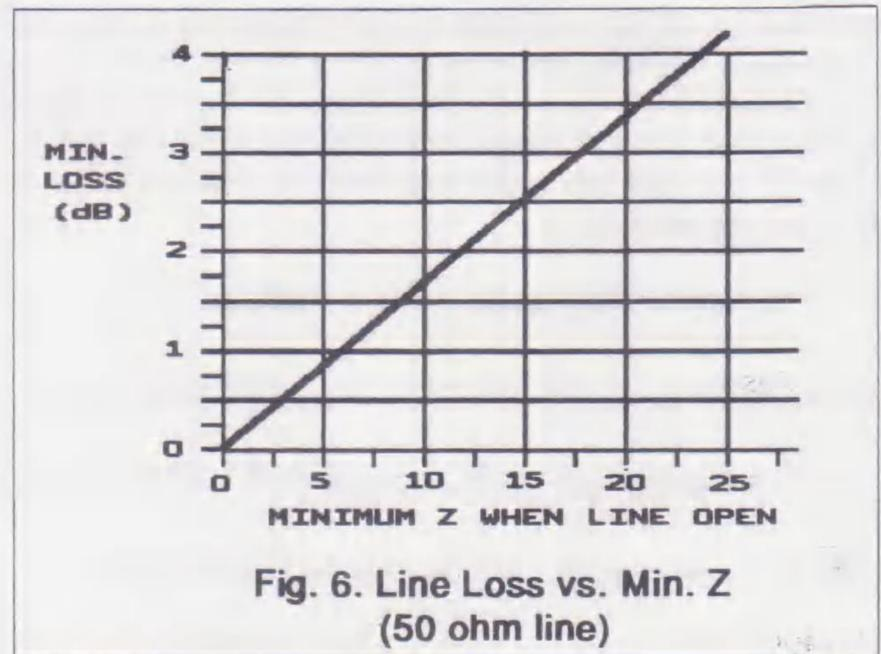
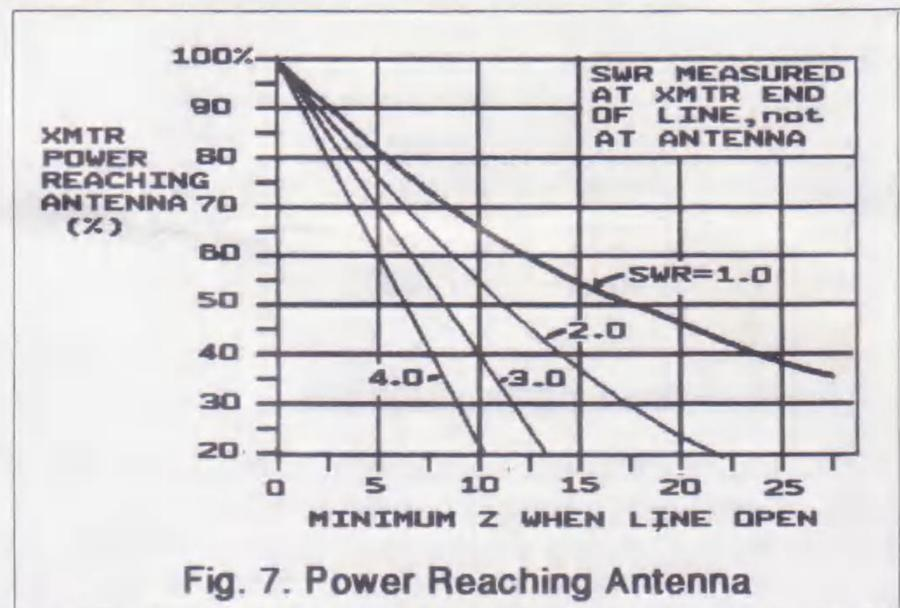
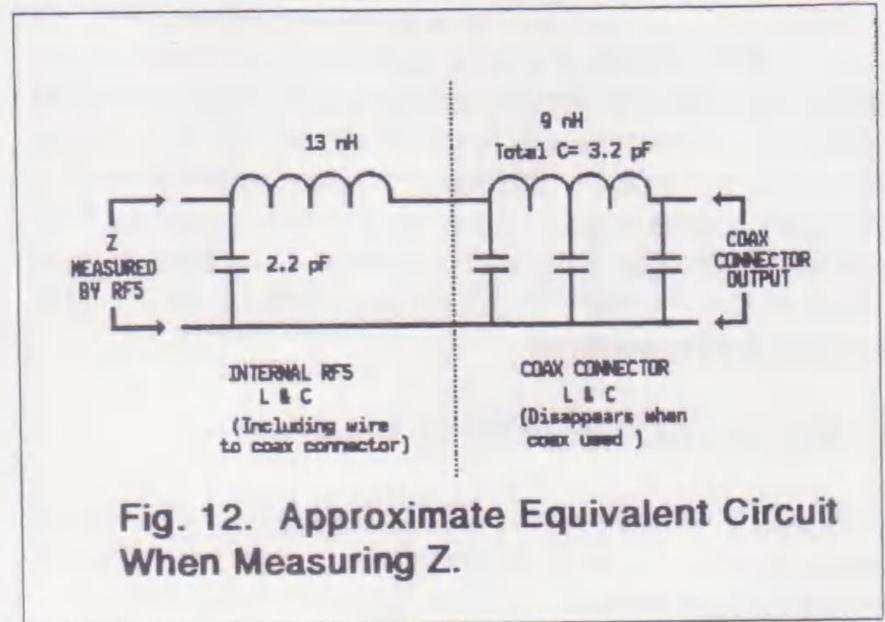

Fig. 6. Line Loss vs. Min. Z (50 ohm line)
Fig. 7. Power Reaching Antenna
Fig. 12. Approximate Equivalent Circuit When Measuring Z.
Eqn. (7) is plotted in Fig 6.
3. Find the cable loss using equations 6 or 7, or Fig. 6.
All the above loss values are in dB, and all assume a 1.0 SWR when the antenna is connected. That is why they are labeled min. loss. However, line losses increase further when SWR is greater than 1.0. Figure 7 puts everything together and shows how much of your transmitter power reaches the antenna (or how much of the received signal reaches your receiver.)
To use Fig. 7:
3. Read the percentage of power reaching the antenna from Fig. 7.
Any result over 80% on Fig 7 is considered excellent, but below 50% means you should consider investing in some lower loss cable. Most installations may fall between 50% and 80%, with lower values on the higher bands, especially 440 MHz.
Fig. 7 is not shown in RF1 instructions, but also applies to the RF1. You can convert the "x axis" of Fig. 7 to dB loss by using Fig. 6, if you wish.
Note that the SWR measured at the "shack end" of a line will always be lower than that measured at the antenna because of line loss, and Fig. 7 shows values of the (easier) SWR measurement at the "shack end."
Antenna tuners are not usually used at VHF because of high line loss. If you measure your line loss leading up to Fig 7, then connect an antenna tuner at the **shack end** of the line, there is no change in the fraction of the power reaching your antenna! The only benefit is that your transmitter may put out more power into the lower SWR produced by the tuner. **A tuner in the shack does not reduce line loss.** Ideally, a tuner should be at the antenna, but that is inconvenient.
At higher frequencies, Z measurement is affected by stray capacitance if Z is high, and by stray inductance if Z is low. Fig. 12 shows approximate values of these. (Incidentally, these values were measured using the RF5.) The total stray capacitance (5.4 pF) acts in parallel with the load, tending to reduce the apparent load Z at high Z. At low Z, the series inductance tends to increase the apparent Z. With an antenna, the strays shift the curve of Z vs. frequency slightly with little affect on the values of Z, except possibly above 300 MHz, i.e a slight frequency shift cancels the strays!
Also note that SWR measurements are made in a bridge circuit where internal RF5 L&C, including the lead to the coax connector, is compensated in the other leg of the bridge. So Fig. 12 does not apply to SWR measurements.
Note that all the strays shown in Fig. 12 are cancelled when making the "minimum Z" measurement used in Equations 6 and 7, and Figs. 6 and 7! The transmission line looks a fraction of an inch longer because of them, but that is all.
The affects of parasitic elements, such as stray inductance, capacitance, and even some lead radiation increase exponentially at the highest frequencies. Precise measurements above 300 MHz are almost an "art," rather than a science, and may be limited by your experience and method of hookup rather than the RF5 accuracy. For example, only 1/2" of wire (1/4" gnd lead, 1/4" hot lead) has an inductance of about 10 nH, and a reactance of 26 ohms at 440 MHz. This alone will keep the SWR above 1.5! Or, if measuring at the base of an antenna, the antenna will appear 1/2" longer than it really is, and seem to resonate lower. You should almost always measure at the far end of the coax on 440 MHz to avoid this. Also, the coax connector may not be capable of a 1:1 SWR no matter what the load. Trying various dummy loads may produce wildly different SWRs, since few loads are perfect here. The meter itself has an inherent minimum SWR of about 1.2 at 440 Mhz, and perhaps 1.4 at 520 MHz, although this depends on the load. So, at these frequencies, any SWR less than 1.5 is usually considered good, and 2.0 is usually "acceptable." Thus, the search for a "perfect" 1.0 SWR here may be futile. You can see from Fig. 7 that a 1.5 SWR has little effect on line loss, for example.
This equation is only accurate if R and X are about the same size. If one is much larger (4x or more), the smaller one cannot be determined. More importantly, above 50 MHz, the parasitic L&C (Fig. 12) will tend to make Z less accurate. Eqns. (10) and (11) are useless at 440 MHz, for example.
Characteristics of some common cables are shown below. The loss is per 100 feet of cable. For 50 feet, multiply the loss by 1/2, etc. Note that foam-dielectric cable has less loss (and its size is the same as equivalent "non-foam.") However, foam is more subject to increased loss due to weathering...for example moisture. Otherwise, low-loss cable tends to be much thicker, and more expensive. All losses are at swr=1.0. See Fig 7 for an indication of how loss increases with SWR.